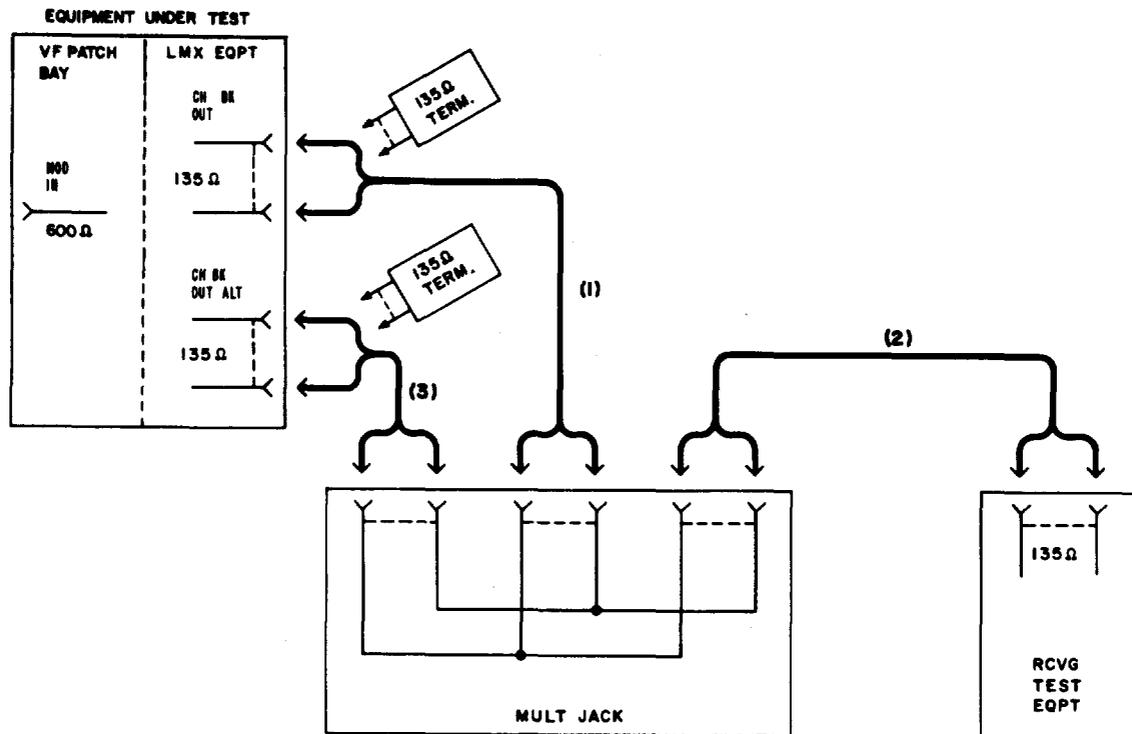

Fig. 15—Patching Diagram—Turnover Test
- 2 Connect the RTE (through a multiple jack) to the CH BK OUT jack of the channel bank under test [patches (1) and (2), Fig. 15].
- 4 Insert a 323A plug (135-ohm termination) in the CH BK OUT ALT jack (Fig. 15).
- 7 Connect the RTE (through the multiple jack) to the CH BK OUT ALT jack [patch (2), Fig. 15]
| 9 | Remove patch (1), Fig. 15. |
| 10 | Insert a 323A plug (135-ohm termination) in the CH BK OUT jack (Fig. 15). |
| 12 | If the requirements of Steps 5, 8, and 11 are not met, <ul style="list-style-type: none"><li data-bbox="354 945 1484 1008">(a) Check (and correct, if necessary) the wiring between the channel bank hybrid output ports and either the CH BK OUT or the CH BK OUT ALT jacks.<li data-bbox="354 1039 727 1066">(b) Remove patch (3), Fig. 15.<li data-bbox="354 1098 927 1125">(c) Remove the 323A plug inserted in Step 10.<li data-bbox="354 1157 756 1184">(d) Reconnect patch (1), Fig. 15.<li data-bbox="354 1215 727 1243">(e) Repeat Steps 3 through 11<li data-bbox="354 1274 922 1302">(f) Repeat applicable steps in Charts 1 and 4. |
| 14 | Remove patch (3) in Fig. 15 and the 323A plug inserted in Step 10. |
| 16 | Remove patch (2), Fig. 15. |